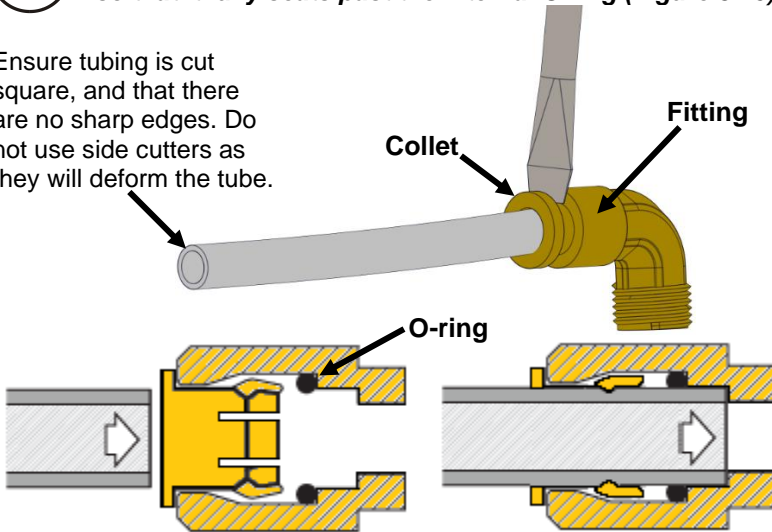

Figure 3.10 – Seating the tubing
*Use a flat blade screw driver to gently pry between the fitting and the Collet, lubricate and firmly push the tube into the fitting so that it fully seats past the internal O-ring (Figure 3.10).*